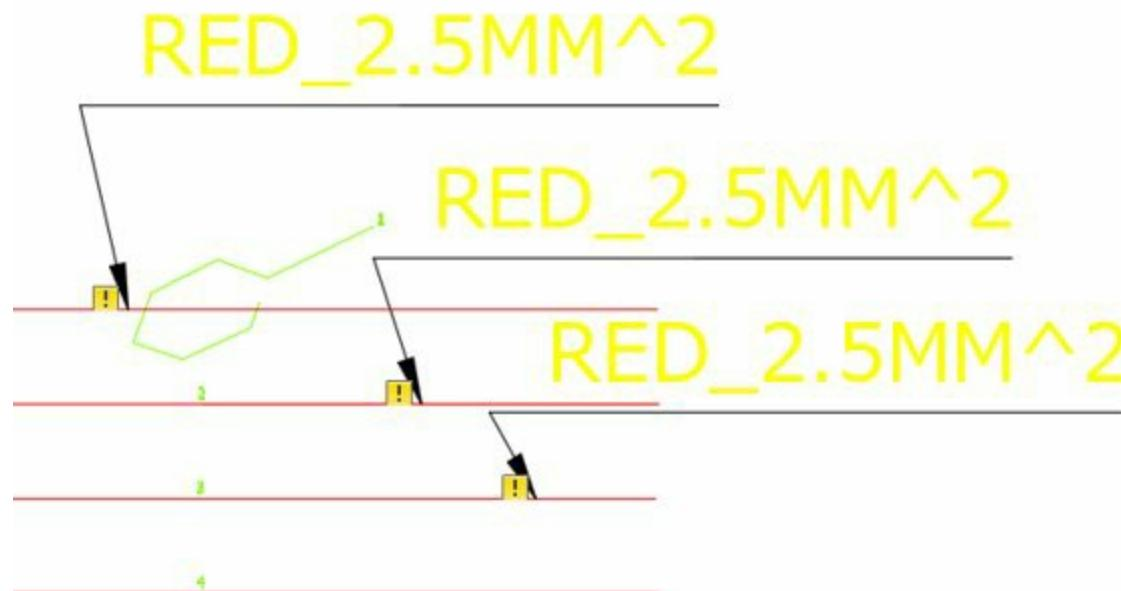

Figure-37. Wire labels
- After selecting the desired button, click on the wire and follow the instructions given by system. Press **ENTER** to create the labels. The labels will be attached to the wires; refer to Figure-37.